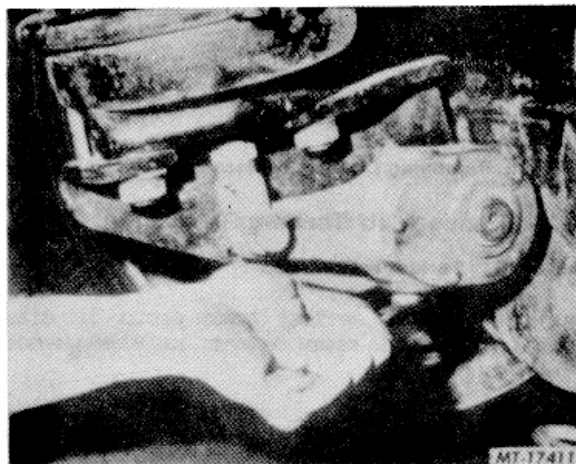

Fig. 3 Backing Off Brake Adjustment
3. It may be necessary to back off brake adjustment to obtain enough clearance for drum removal (Fig. 3).